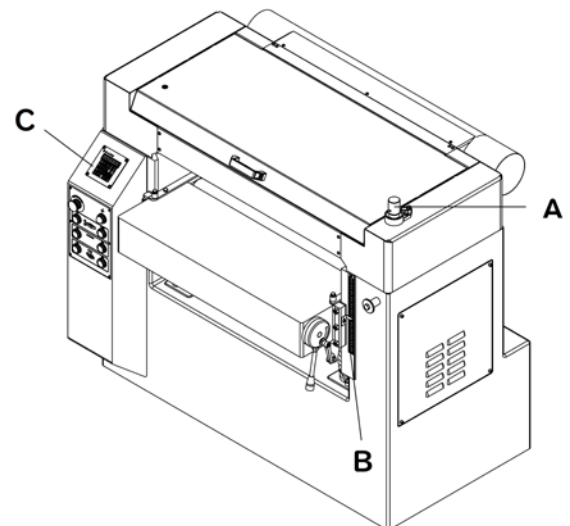

Fig. 8
When power table reaches the approximate material size, using the micro adjustment adjust (A) for manual positioning. The digital display displays increments of .001" see Fig. 8